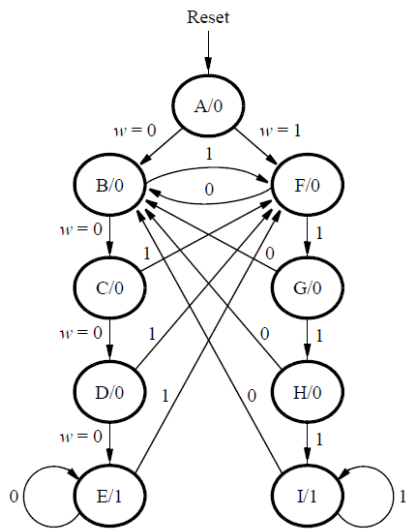

Figure 3: A state diagram for the FSM.
A state diagram for this FSM is shown in Figure 3. For this part you will manually derive an FSM circuit that implements this state diagram, including the logic expressions that feed each of the state flip-flops. To implement the FSM use nine state flip-flops called y_8, \dots, y_0 and the one-hot state assignment given in Table 1.
For this part you are to write another style of HDL code for the FSM in Figure 3. In this version of the code you should not manually derive the logic expressions needed for each state flip-flop. Instead, describe the state table for the FSM by using a VHDL CASE statement in a PROCESS block, and use another PROCESS block to instantiate the state flip-flops. You can use a third PROCESS block or simple assignment statements to specify the output z. To implement the FSM, use four state flip-flops y_3, \dots, y_0 and binary codes, as shown in Table 3.
4. Compile your project and be sure to add SignalTap functionality. To examine the circuit produced by Quartus open the RTL Viewer tool. Double-click on the box shown in the circuit that represents the finite state machine and determine whether the state diagram that it shows properly corresponds to the one in Figure 3. To see the state codes used for your FSM, open the **Compilation Report**, select the **Analysis and Synthesis** section of the report, and click on **State Machines**.